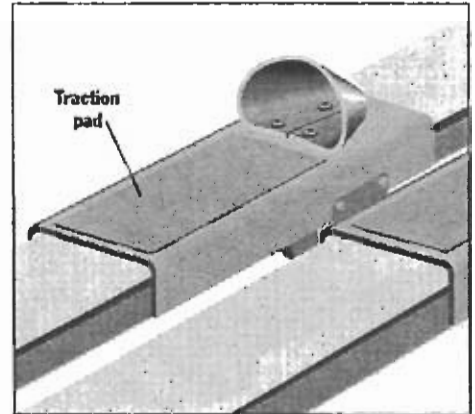

Figure 7
1. Pry up one corner of the foot-glide traction pad with a knife (Figure 7).